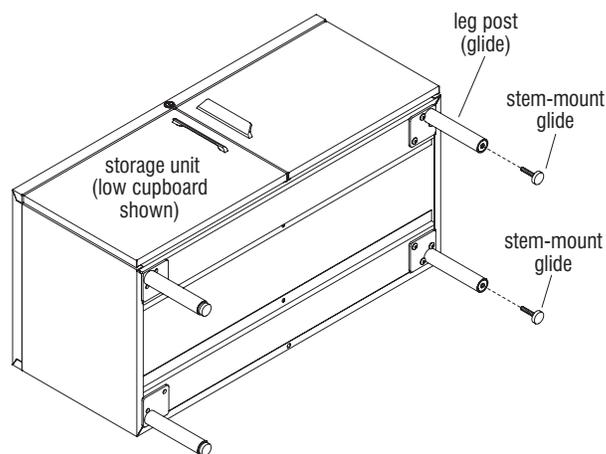

Figure 2
1. Thread the stem of each glide into the threaded insert at the underside of each leg post. Twist the glides in clock-wise, fully to the bottom of the leg post. This will allow level adjustment of the low cupboard if required when placed in its final location (Figure 2 & Detail B).